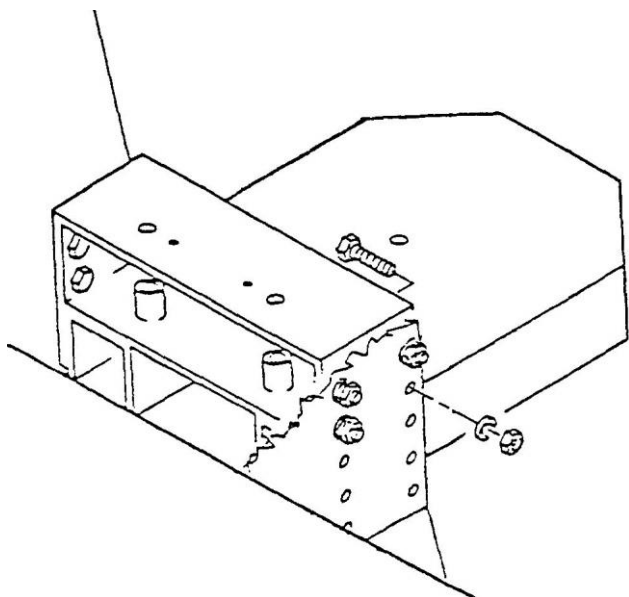

FIG.2
(1) Attach the sub-frame to the mount. Use (4) 5/8-11 x 1³/₄ hex hd. capscrews, nuts and lockwashers on each side. The mount and sub-frame are made to adjust for mounting on the Skid Steer loaders. Use the upper set of holes when mounting the dozer for snow removal. Use the lower holes when mounting the dozer for moving material that requires more below grade cut. As shown in FIG. 2.